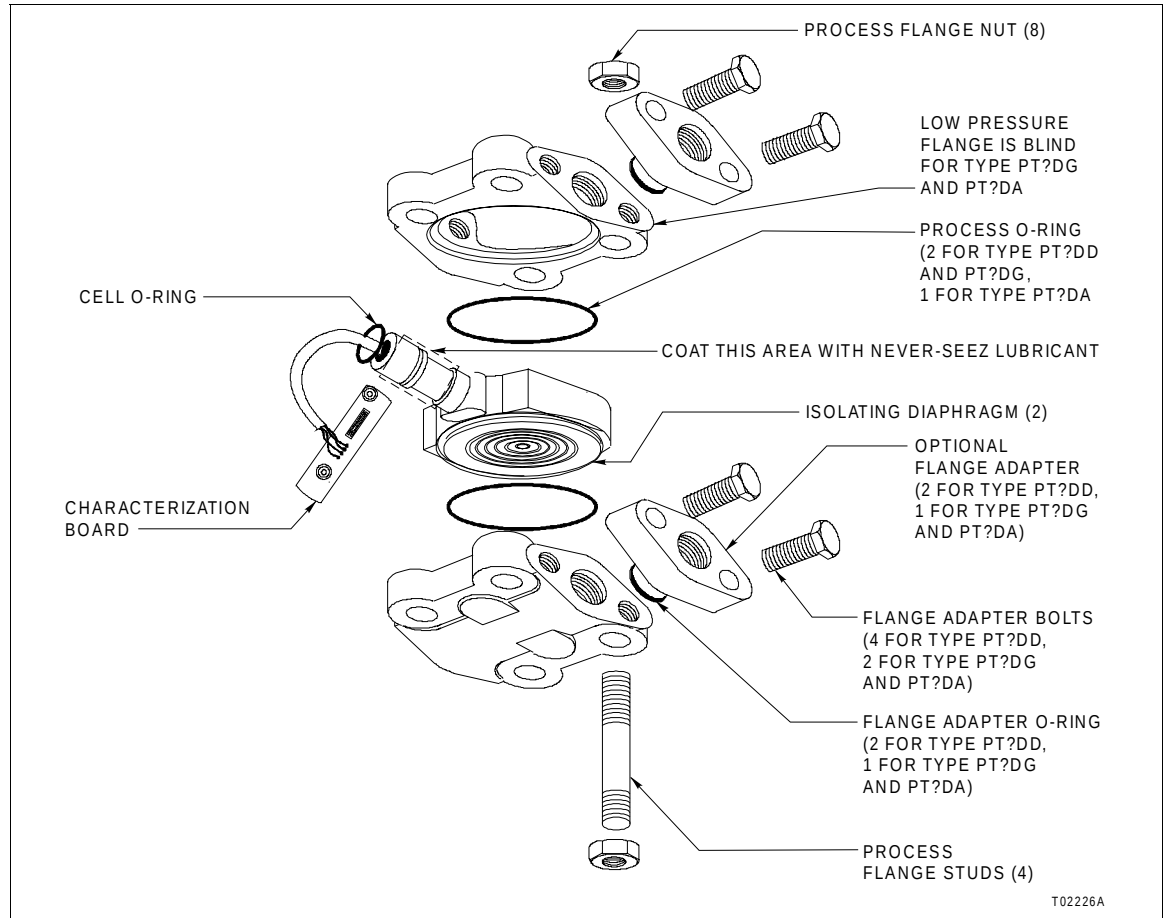

Figure 7-3. Cell with Characterization Board Assembly
8. Use the crescent wrench to remove all four of the process flange nuts on either side of the process flange (Fig. 7-3).
9. Separate the process flanges from the cell, taking care not to damage the isolating diaphragms (Fig. 7-3).
7. Coat the cylindrical part of the cell with a light coating of NEVER-SEEZ lubricant (Fig. 7-3).
3. Remove the flange adapter O-rings (Fig. 7-3).